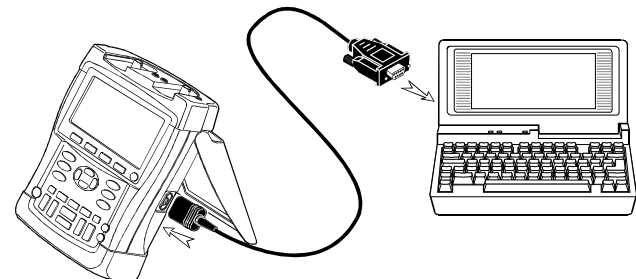

Figure 33. Connecting a Computer
- Use the Optically Isolated RS-232 Adapter/Cable (PM9080) to connect a computer to the OPTICAL PORT of the test tool. (See Figure 33.)